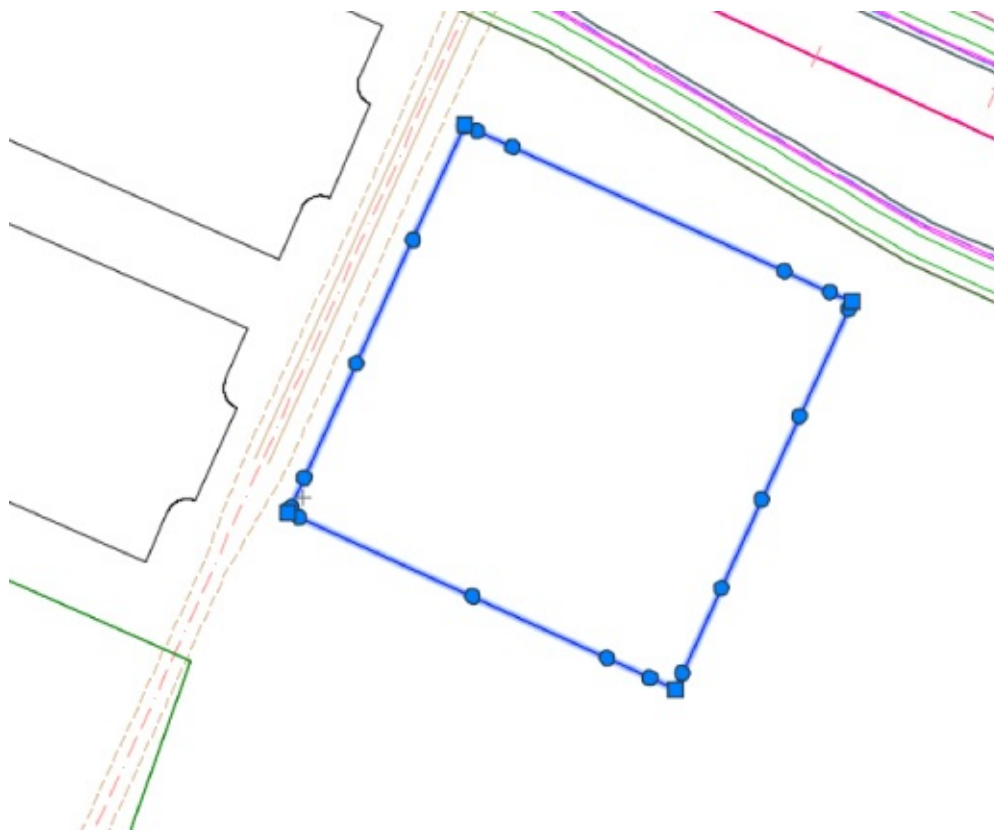

Figure 14.6 Conversion to a Feature Line object
27. Select the feature line that was just created, and the grips will look like Figure 14.6.
Note that Figure 14.6 shows two types of grips: square and circular. Feature lines offer feedback via the grip shape: